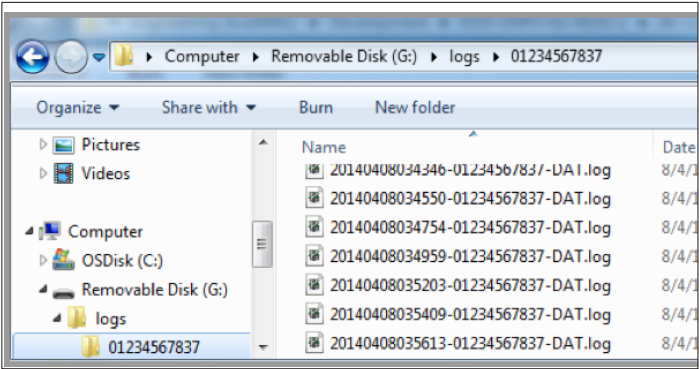

Figure 73. Log file directory on USB drive
4. Plug the USB drive into the USB Host port (see **Figure 73**).